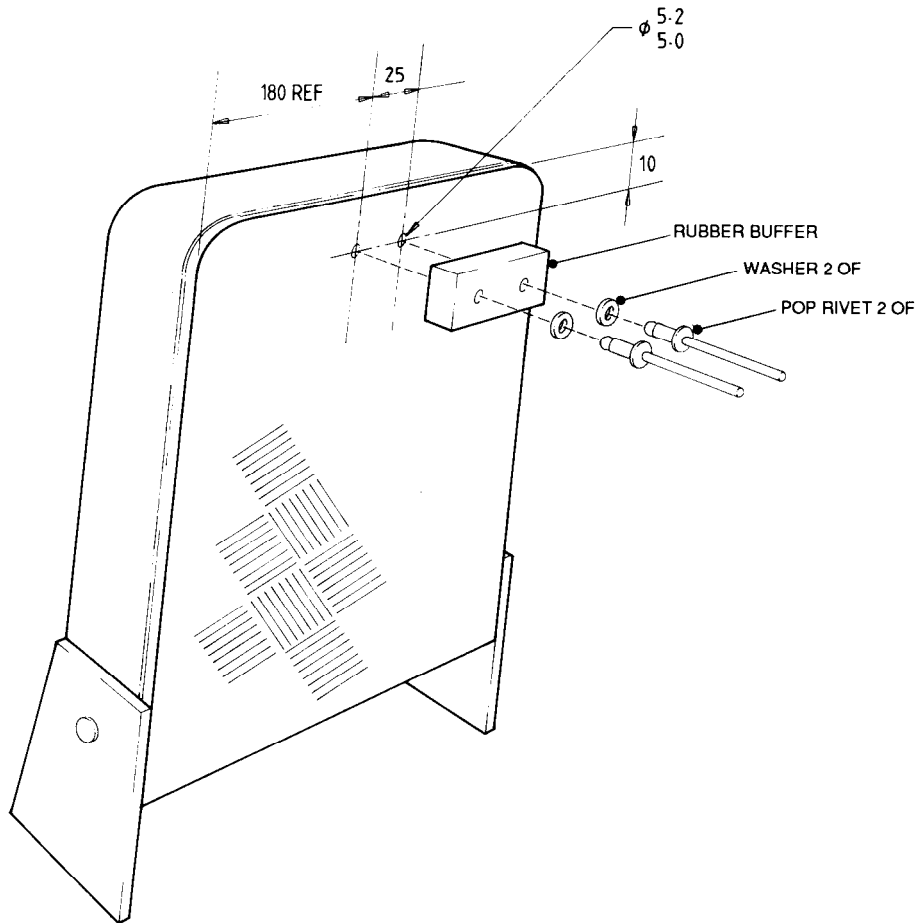

FIG 1 - RUBBER BUFFER MOUNTING DETAILS
- b. Mark and drill the holes as shown in Fig 1.